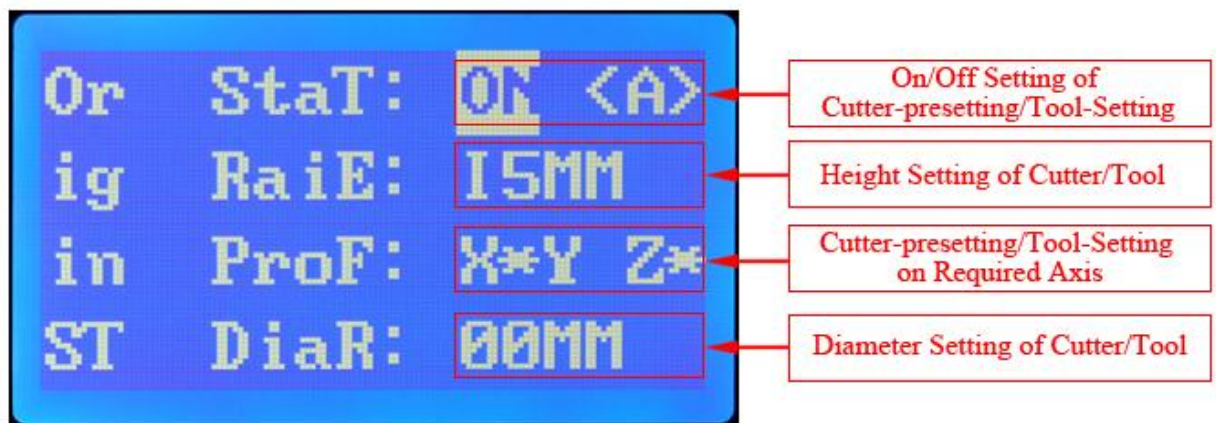

Figure 11: Automatic Cutter-presetting/Tool-Setting
- As “Figure 11” shows, you can press the “B2” key on control pad to switch on/off the cutter-presetting/tool-setting (“Stat”) function.
- If all the settings in “Figure 11” are finished, as long as pressing the “B2” key, the driver will automatically set the cutter with no need of the computer’s assistance, though the process will take a few seconds.